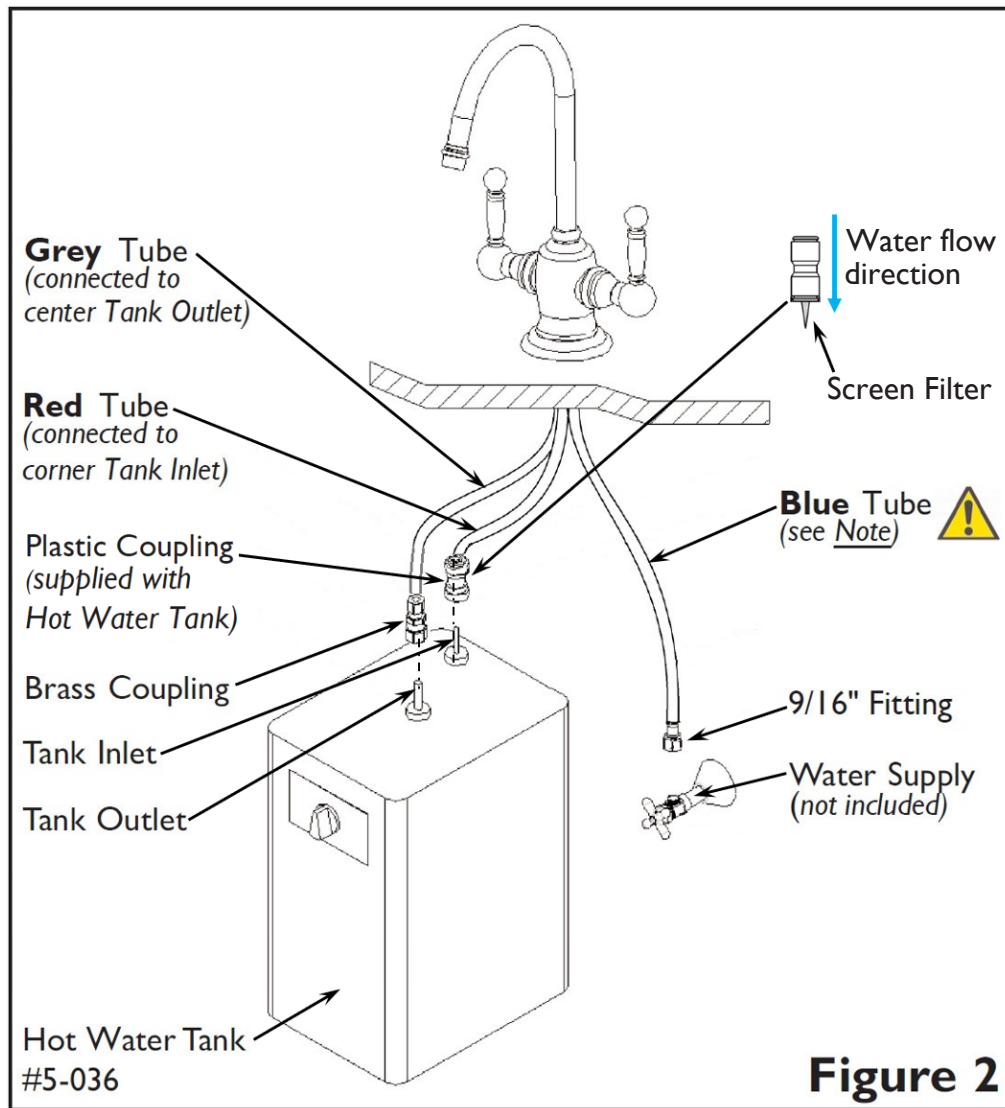

Figure 2
2. ATTACHING WATER CONNECTIONS TO WATER SUPPLY AND TANK (See Figure 2)